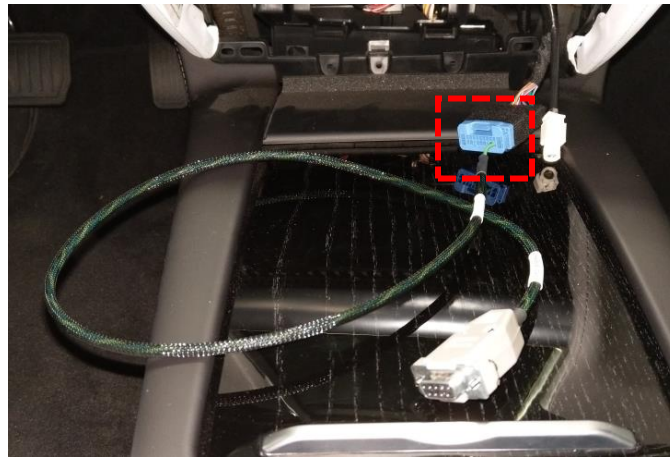

Figure 5. Moving the vehicle communication harness into position
5. Connect the In-Vehicle EDR Retrieval Cable to the connector (Figure 5). (Refer to “Table 1. Retrieval cable requirements,” on page 2 for more information about the required cable for your vehicle.)